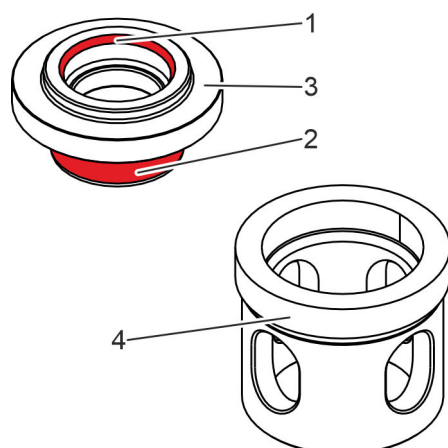

Fig. 43: Body insert and sealing faces on the seat ring
13. ➤ Check the body insert (Fig. 43/4) for wear.
14. ➤ Checking the sealing faces (Fig. 43/1 and 2) on the seat ring (Fig. 43/3) for wear and roughness. $R_{\max} = 3 \mu\text{m}$.